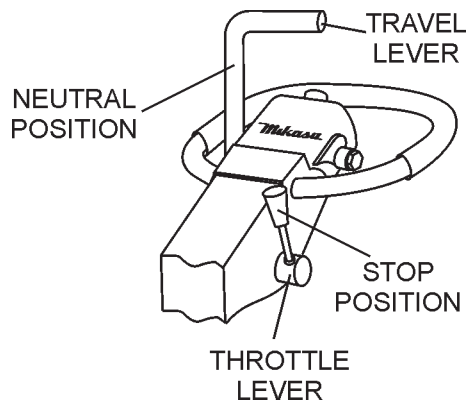

Figure 18. Travel Lever (STOP)
3. Place the throttle lever in the **STOP** position (Figure 18) to stop the engine.